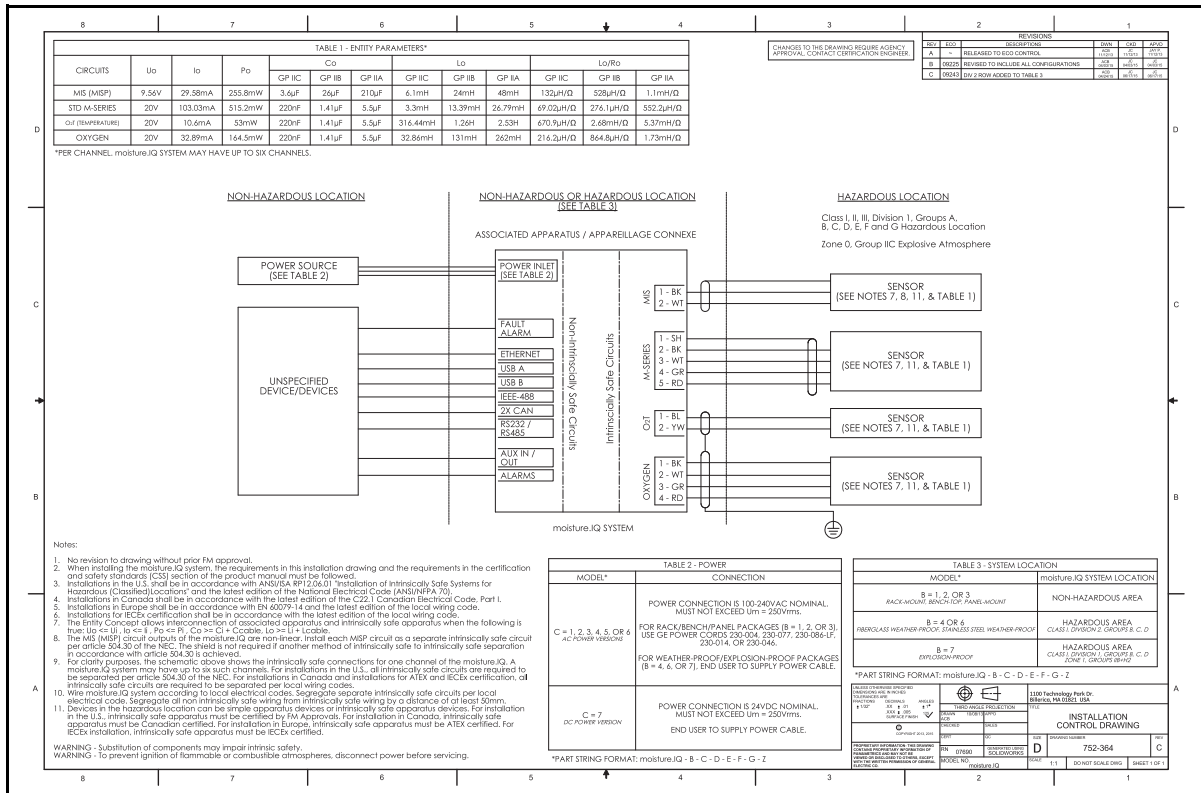
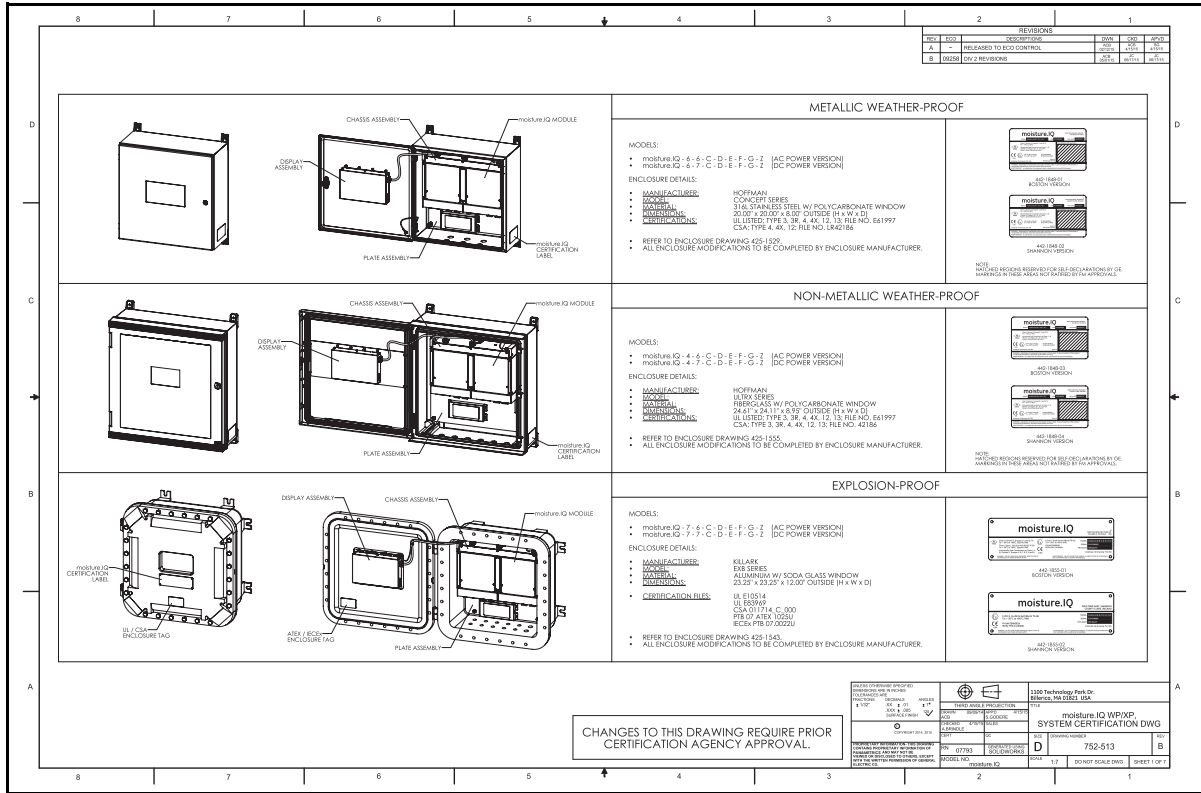
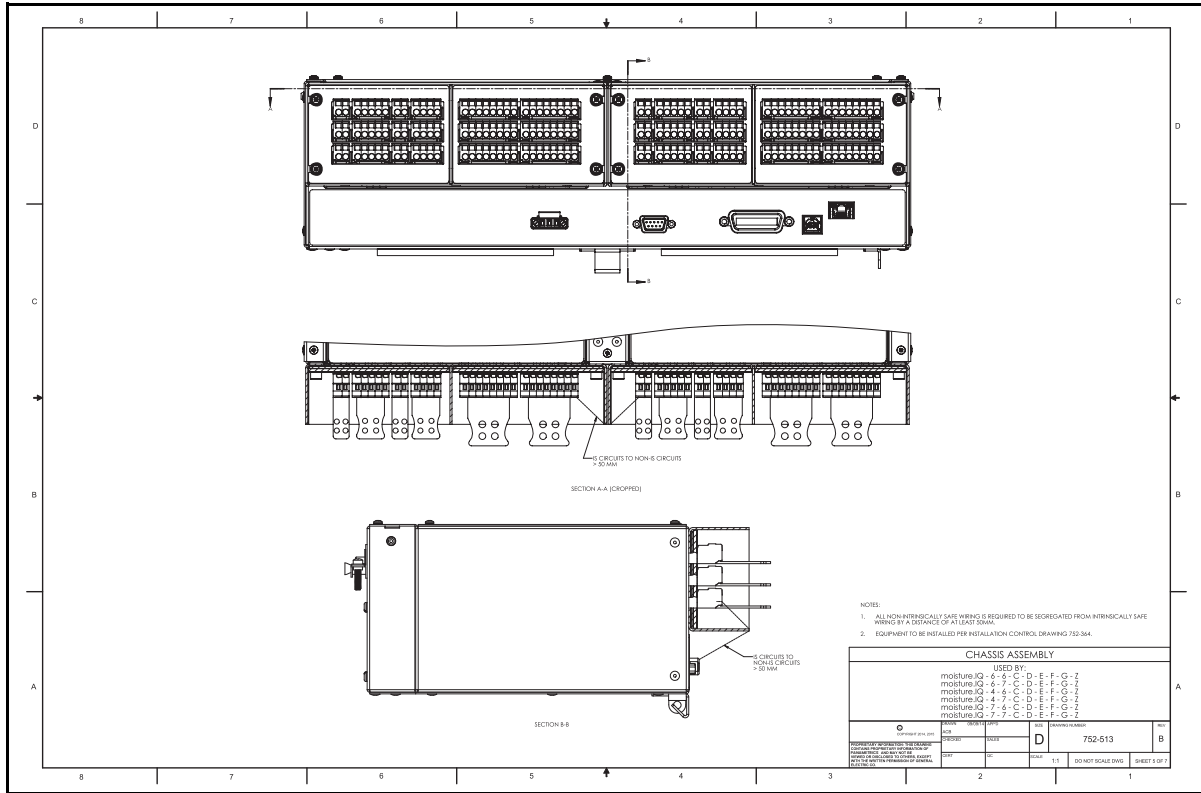

Figure 1: Rack/Bench/Panel - Installation Control Drawing (Dwg. 752-364_revC, SH 1 of 1)
Figure 2: WP/XP System Certification Drawing (Dwg. 752-513_revB, SH 1 of 5)
Figure 6: Chassis Assembly (Dwg. 752-513_revB, SH 5 of 5)
- The installation should comply with **controlled drawing** 752-364 rack/bench/panel version (see *Figure 1* below) and **drawing** 752-513 stainless steel weather-proof, fiberglass weather-proof and explosion-proof version (see *Figure 2(B)* on page 2 through *Figure 6(B)* on page 4).